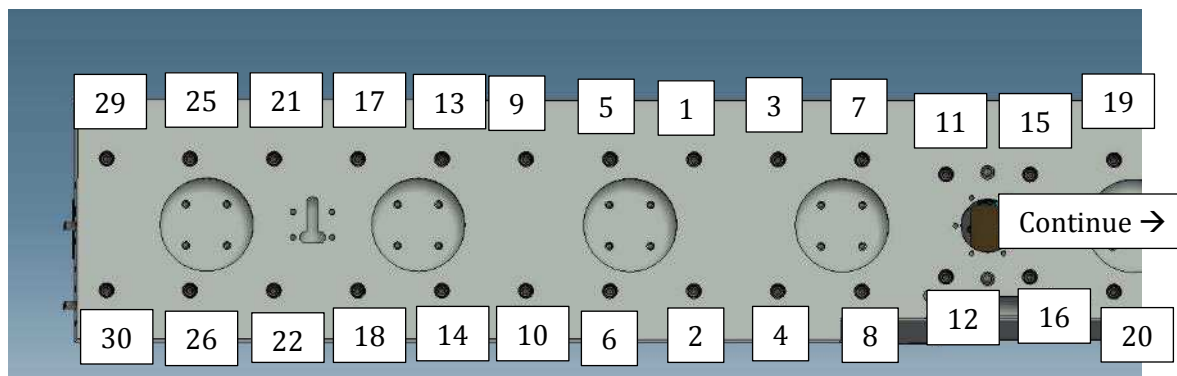

Figure 25: Torque from the center outwards.
51. Verify the 4.98mm gap has been maintained, then torque the bolts to 50 in-lbs. The torque should be applied starting at pole #44 and working outwards. (See Figure 25).